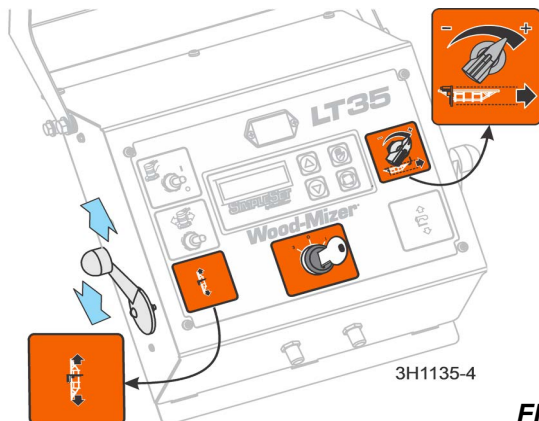

FIG. 3-3
7. Use the carriage forward/reverse switch (left side of control box) to move the cutting head toward the front (hitch end) of the mill. **See Fig. 3-3.**
8. **!** Move the feed control switch (left side of control box) to move the cutting head toward the front end of the mill. **See Fig. 3-3.**